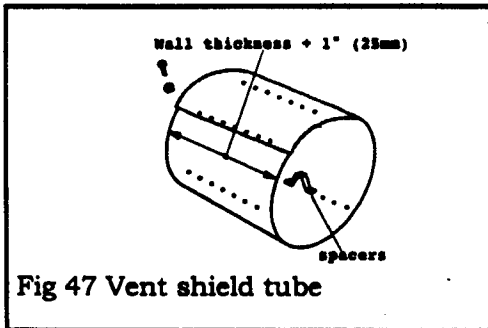

Fig 47 Vent shield tube
9.2.2.5 Prepare the vent shield tube (Fig. 47). The tube is supplied coiled around the vent